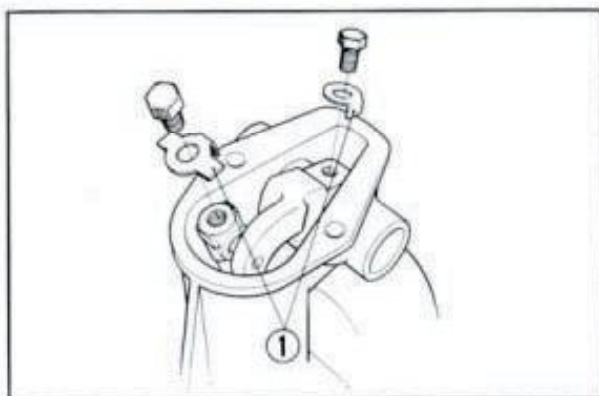

Fig. 187 ① Tongued washer
5. Install the tongued washer with the tongue positioned as shown in Fig. 187, tighten the 6 mm bolt, and then bend up the washer tongue against the bolt head.